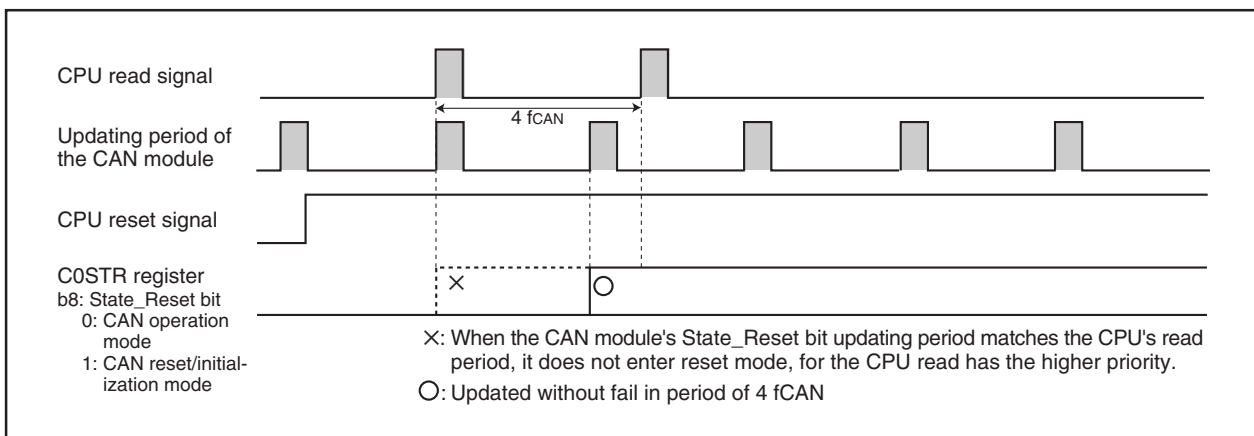

Figure 23.7 When Polling Period of CPU is 3 fCAN or Longer
- (b) When the CPU polls the C0STR register, the polling period must be  $3f_{CAN}$  or longer. (See **Figure 23.7 When Polling Period of CPU is  $3f_{CAN}$  or Longer.**)